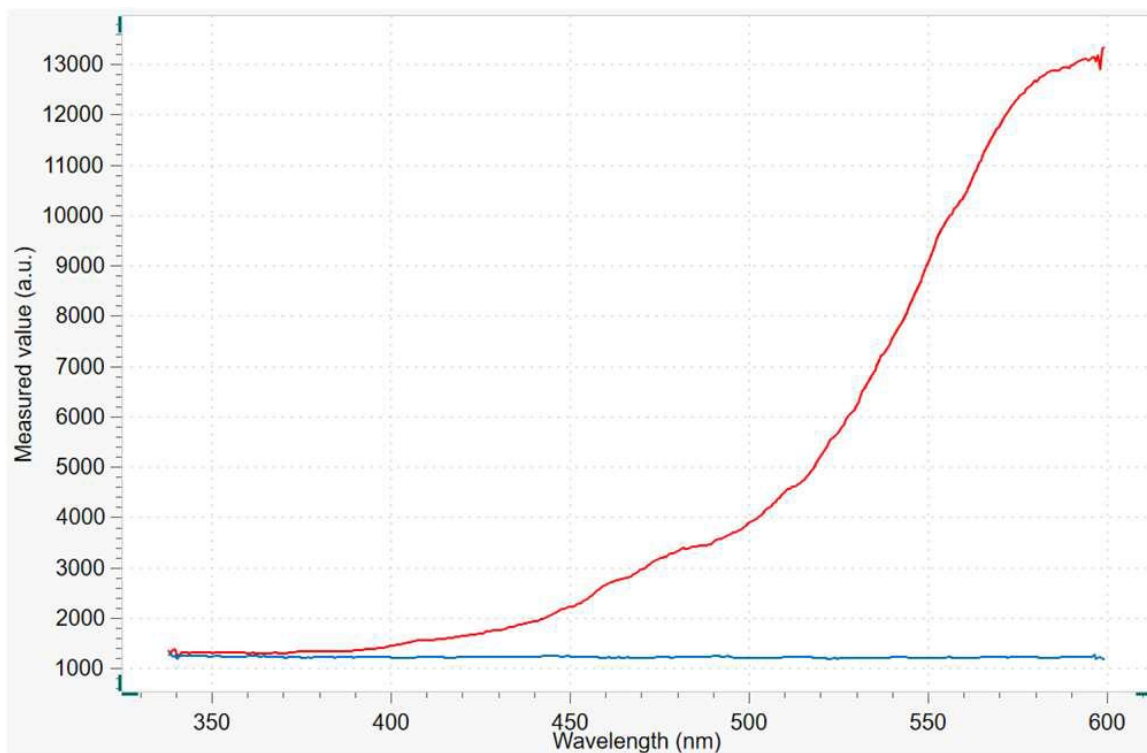

Figure 3. Dark spectrum (blue line) and reference spectrum (red line) recorded at the beginning of the measurement.
3) and the reference spectrum (red line in **Figure 3**).